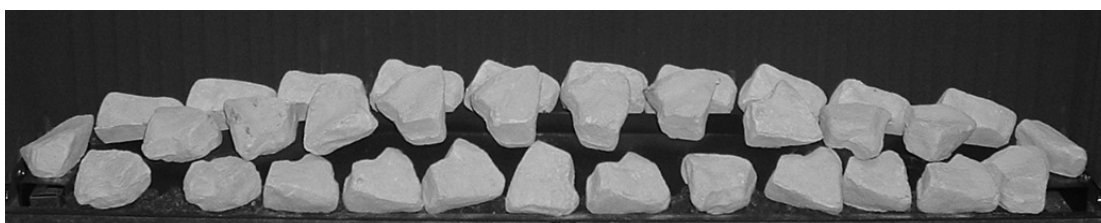

Figure 7
- 7 Place the remaining ten 'Cotswold Stone' pieces from the second packet across the air guides pushing each piece down on a location spike formed in the front air guide. See Figure 7.